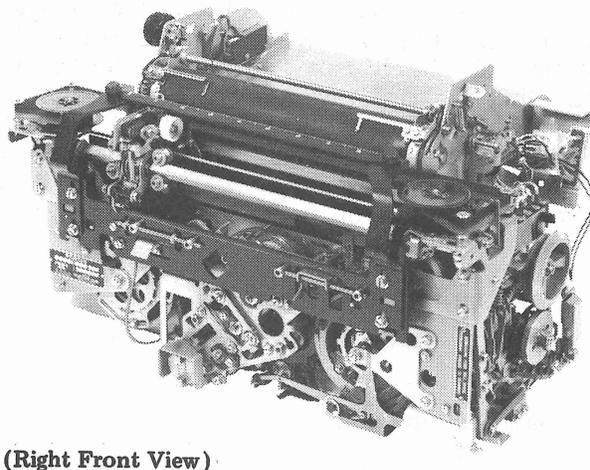

Figure 4 - 37 Typing Unit.
2.06 Unpack the typing unit (Figure 4) from its carton and remove all packing material. The typing unit may be lifted by grasping the right side of the front plate and the rear curve under the left side plate. Do not lift any other way. Place the typing unit on its front plate on a flat surface allowing the shipping pallet to hang over the edge. Remove the shipping pallet from the typing unit. Remove the four shipping fasteners clipped to the feet of the typing unit. Remove the wire retainers that secure the print hammer assembly and the retraction reset slide, if